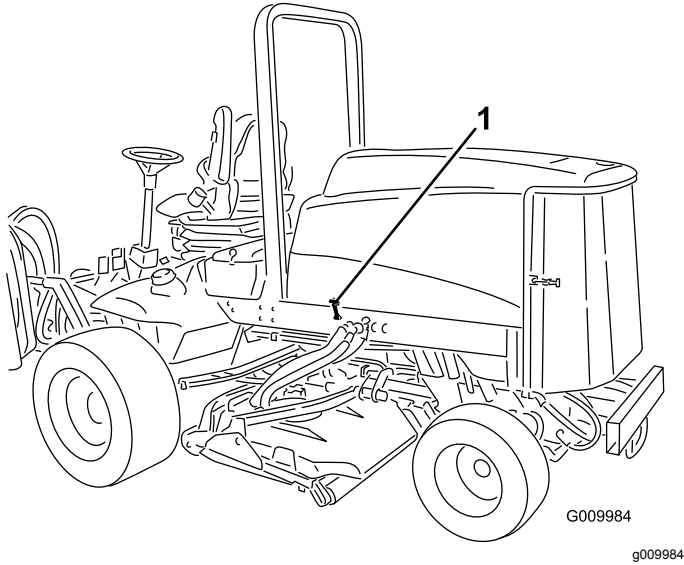

Figure 22
1. Release hood latches (Figure 22) and pivot open the hood.